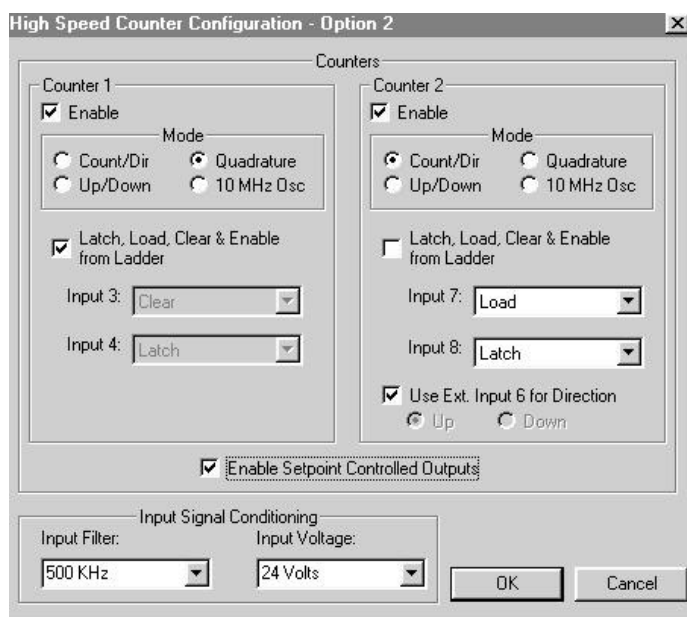

Figure 4.2 – 32-Bit Counters Selected
1. Click the Enable box located next to the desired counter(s). One or both counters (Channel A or Channel B) can be enabled and configured independently. (See Figure 4.2.)
1. The **Input Signal Conditioning** block allows the user to set the input voltage threshold and the input frequency response for noise filtering. It is located on the lower left side of the configuration screen. (See Figure 4.2.)
1. If the ON/OFF Comparison Circuit output function is desired, click the box labeled **Enable Set-point Controlled Outputs**. (See Figure 4.2.)